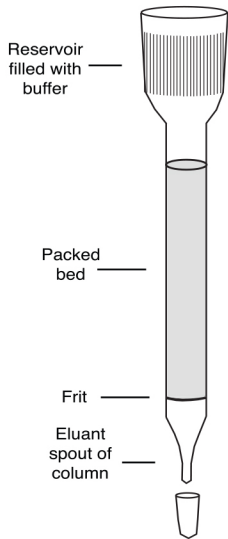

Figure 2
1. (Refer to Figure 2.) Frit - porous disk which supports and retains the matrix in the column. Matrix - separation medium. Eluant - The liquid that flows out of the column.